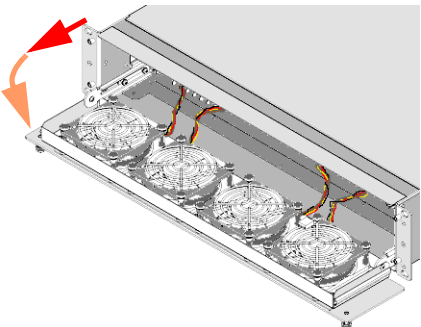

Figure 2 Opening the Front Door
3. Open the front door by unscrewing the knurled door fasteners; then pull the front door out approx. 2cm and then down. See **Figure 2**.